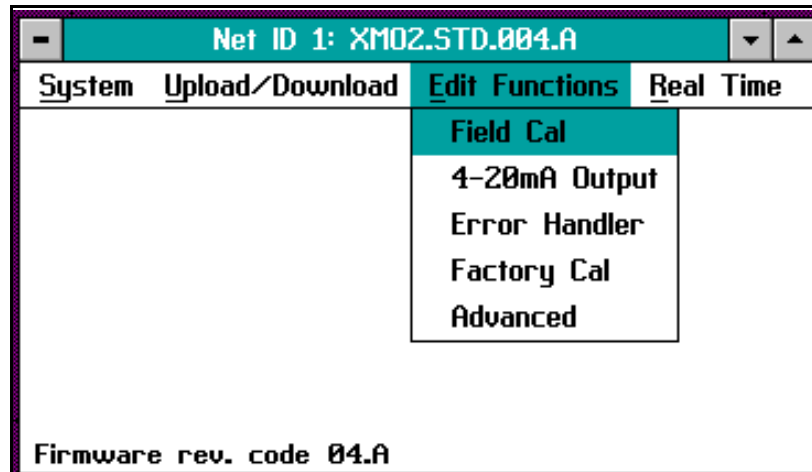
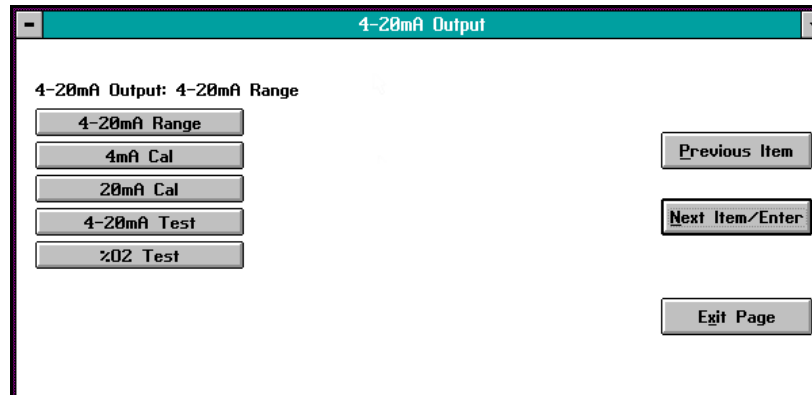

Figure 12: *Edit Functions* Menu
Figure 27: 4-20 mA Output Window
2. From the Instrument window, pull down the *Edit Functions* menu, as shown in *Figure 12 on page 30*.
To access the XMO2 calibration, pull down the *Edit Functions* menu from the Instrument window. This menu consists of the five commands displayed in *Figure 12* below. To access any of the commands, simply select it from the menu.
The XMO2 *Calibration Sheet* shipped with the unit lists the 4-20 mA analog output range that was set at the factory. IDM enables you to change this range via the *4-20mA Output* option. After you click on the *4-20mA Output* button from the *Edit Functions* menu (*Figure 12 on page 30*), a window similar to *Figure 27* below opens. Clicking on any option opens the window for that option, while clicking on *Next Item/Enter* opens the menu listed on the status line above the options.
Note: *Clicking on the Next Item/Enter button selects the option listed on the status line above the option buttons (4-20mA Range in Figure 27 above). The option listed on the status line in any window is the option that was chosen the last time that menu was used.*